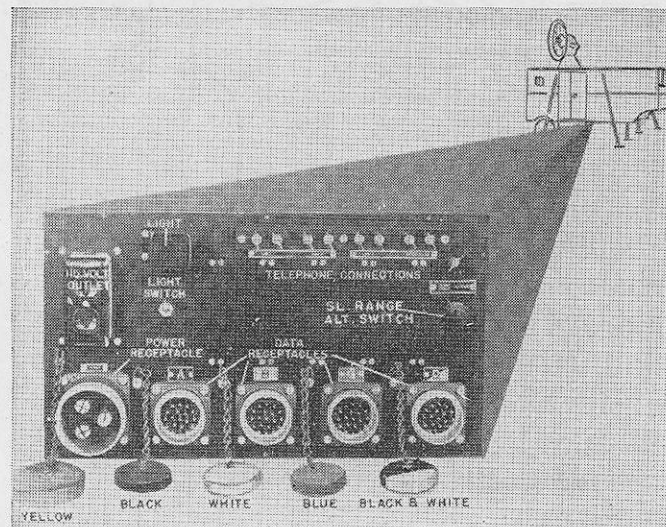
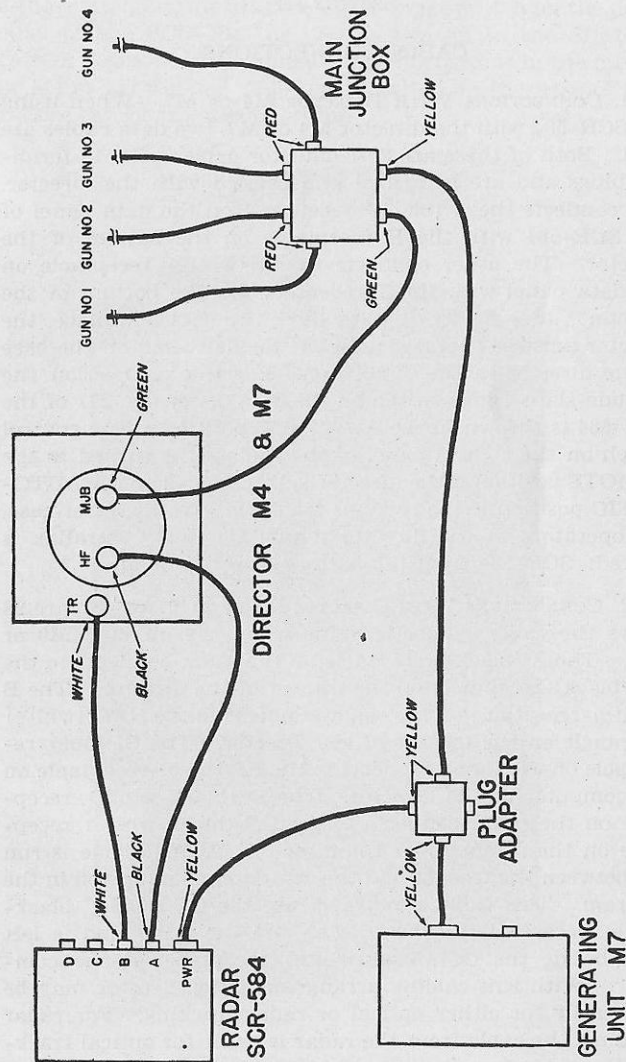

FIGURE 27.—Data panel.
FIGURE 29.—Cable diagram for the SCR-584 used with director M4 and M7.
■ 31. CONNECTIONS WITH DIRECTOR M4 OR M7.—When using the SCR-584 with the director M4 or M7, two data cables are used. Both of these are 20-conductor cables with 19 terminal plugs and are furnished and carried with the director. One connects the A (black) receptacle on the data panel of the SCR-584 with the H receptacle on the bottom of the director. The other connects the B (white) receptacle on the data panel with the T receptacle on the bottom of the director. (See fig. 29.) With these two cables in place, the director must be operated with the toggle switch on the base of the director in the T position. For this connection the altitude-slant-range switch on the data panel (fig. 27) of the SCR-584 is thrown to the ALTITUDE position. The control switch on the control panel of the radio set is turned to the REMOTE position if the director is tracking, or to the AUTOMATIC position if the radar is tracking. In the latter case, the operators at the director match pointers. Parallax is figured: SCR-584 from the battery directing point.
of these methods, the altitude-slant-range switch on the data panel of the SCR-584 (fig. 27) is thrown to the SLANT-RANGE position. The control switch is used as in the director M4 or M7 set-up. The toggle switch on the base of the tracker can be in either position.